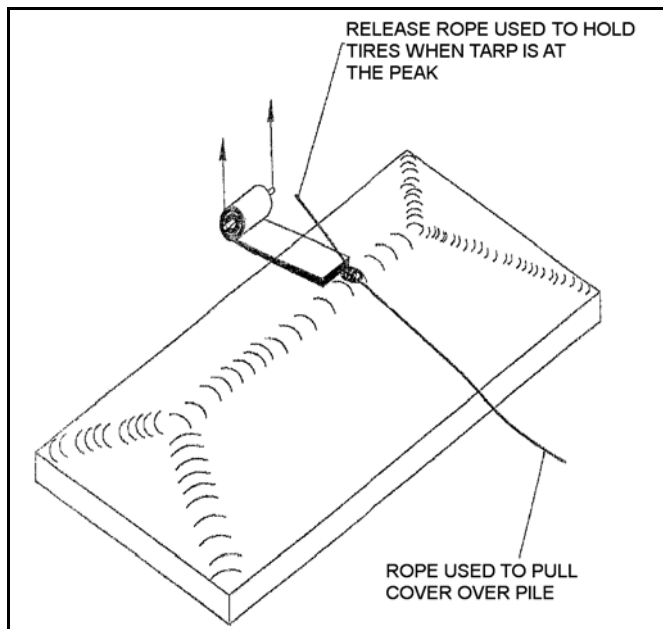

Figure 4.3
3. Pull on the rope, raising the cover to the peak; release the rope holding the tires, letting them come over with the cover. See Figure 4.3.